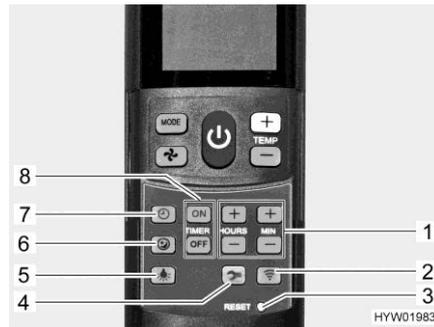

Fig. 227 Remote control with setting buttons (air conditioning unit)
Activating soft-start: ■ Press the soft-start button (Fig. 227,6). The fan then runs at low speed in cooling mode, which makes it especially quiet.
Setting the time: ■ Press the time button (Fig. 227,7).
■ Set the hours and minutes with the buttons (Fig. 227,1).
Programming the switching on time: ■ Press "ON" button (Fig. 227,8).
■ Press the buttons for setting the time (Fig. 227,1) until the desired time span until switch-on is reached.
■ Press "ON" button (Fig. 227,8).
Programming the switch-off time: ■ Press "OFF" button (Fig. 227,8).
■ Press the buttons for setting the time (Fig. 227,1) until the desired time span until switch-off is reached.
■ Press "OFF" button (Fig. 227,8).
Deactivating the timer: ■ Press the "ON" or "OFF" button (Fig. 227,8) again.
Switching on the lighting: ■ Press the light button (Fig. 227,5). The light is switched on at the last set dimming level.
Dimming the lighting: ■ Press the light button (Fig. 227,5) and keep it pressed until the desired brightness is reached.
Switching off the lighting: ■ Press the light button (Fig. 227,5).
- ▷ The Setup button (Fig. 227,4) is used to connect the remote control with the air conditioning unit during first set-up.